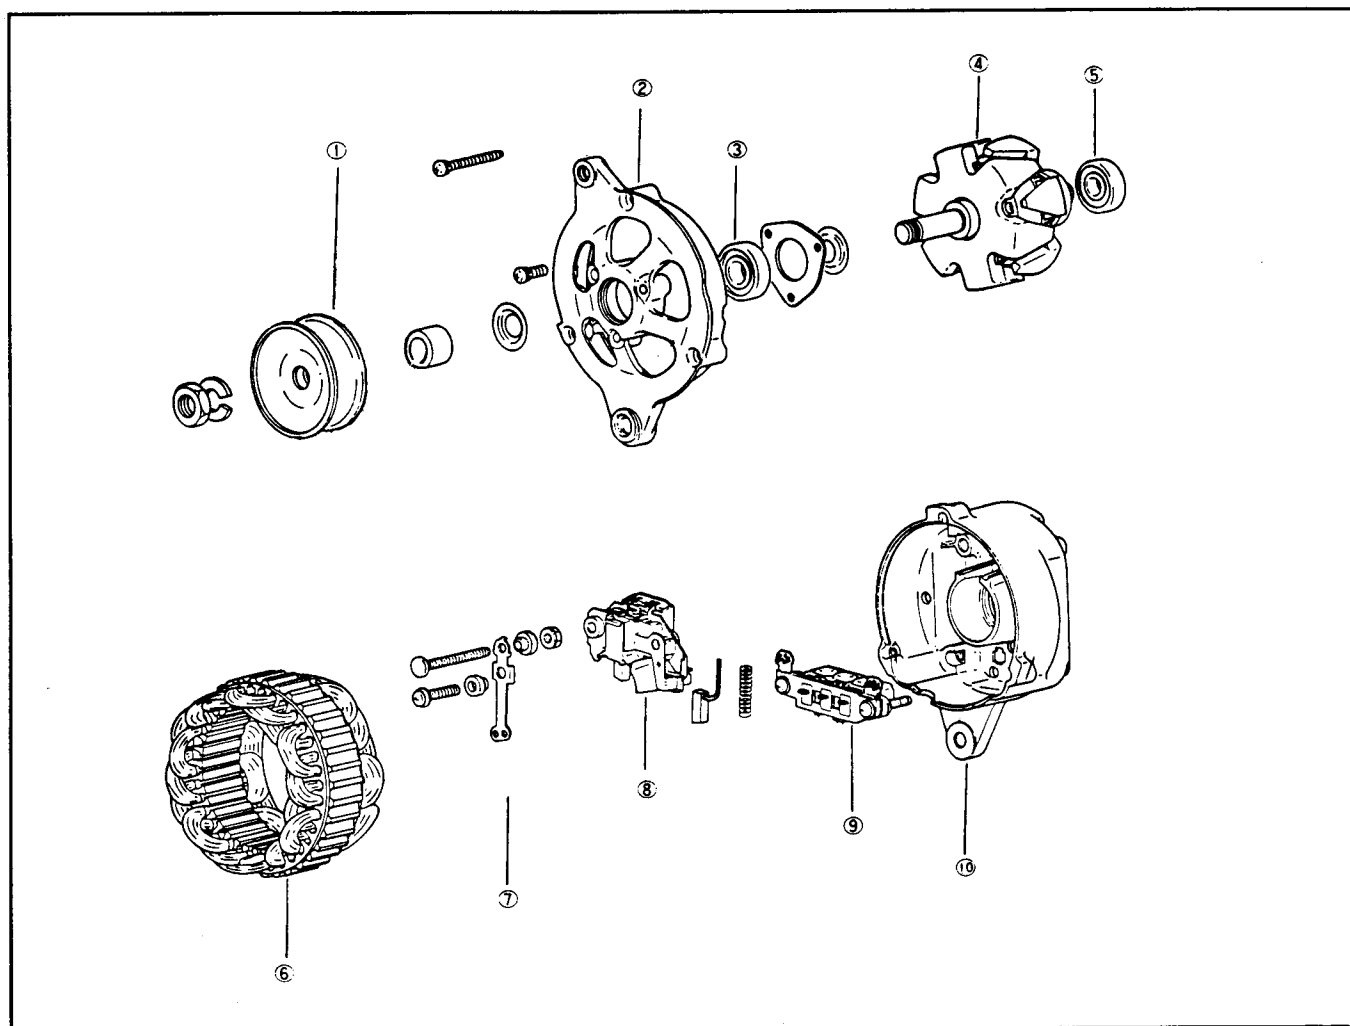

Figure 35
2. Remove the three through bolts (Fig. 35).